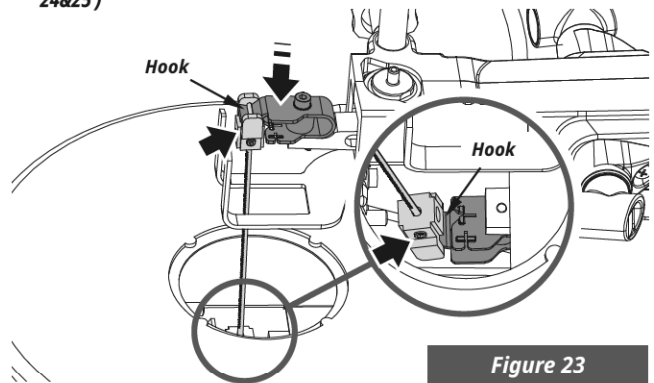

Figure 23
- Slightly press the upper arm down before hooking it in. (See Figure 23)